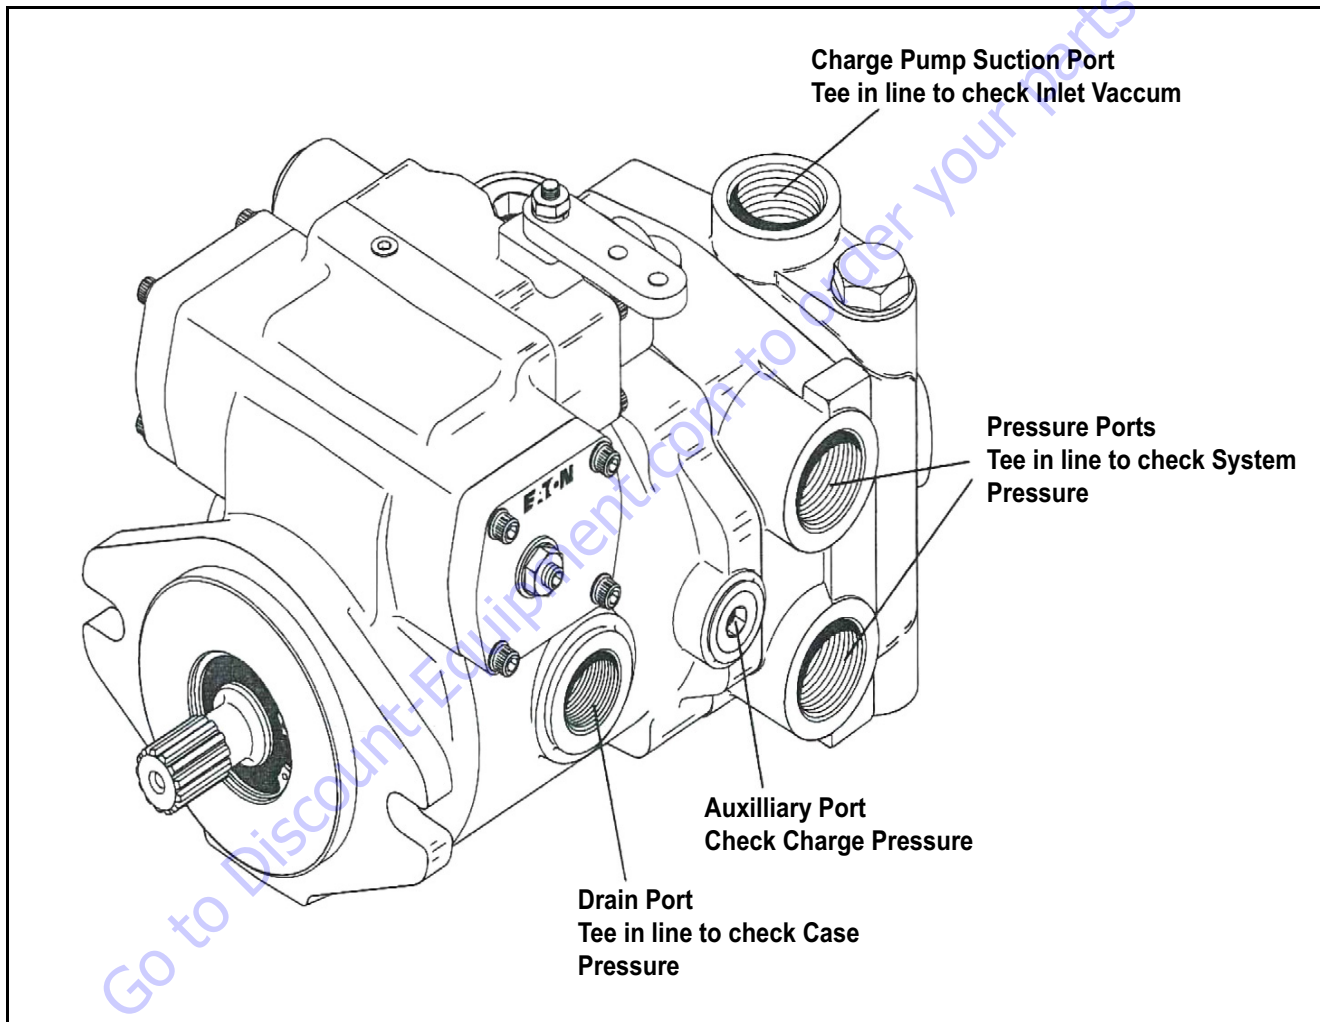

Figure 5-162. Gauge Locations
- a. See Figure 5-162. for location of pressure gauge installation
- a. See Figure 5-162. for location of charge pressure gauge installation